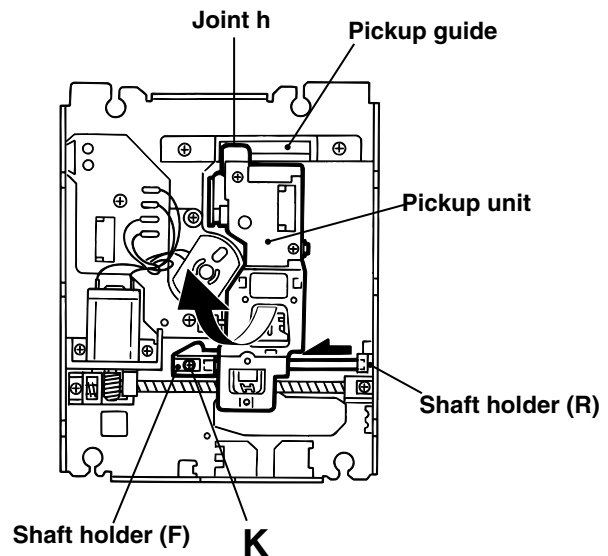

Fig.17
■Removing the pickup unit (See Fig.17)
1. Turn over the traverse mechanism assembly and remove the screw **K** attaching the shaft holder (F).
2. Move the shaft inward and remove it from the shaft holder (R).